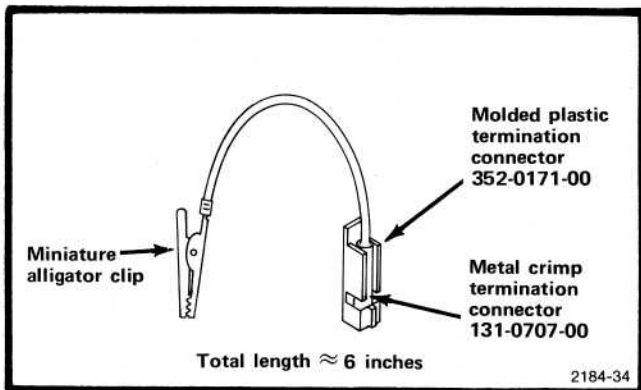

Fig. 4-19. Suggested construction for a shorting strap calibration fixture.
1. Install a shorting strap (Fig. 4-19) from TP1790, TP1795, and TP1820 (Fig. 4-15), to chassis ground.